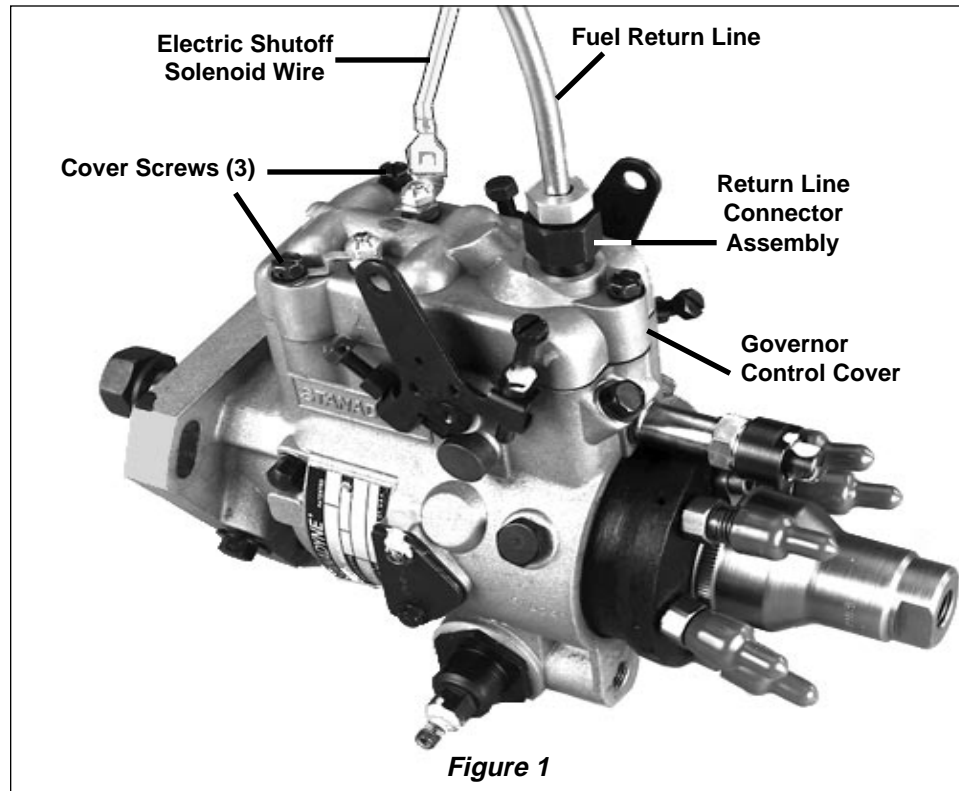

Figure 1
1.0 Remove the FUEL RETURN LINE from the pump's RETURN LINE CONNECTOR ASSEMBLY. Use two wrenches to loosen. See Figure 1.